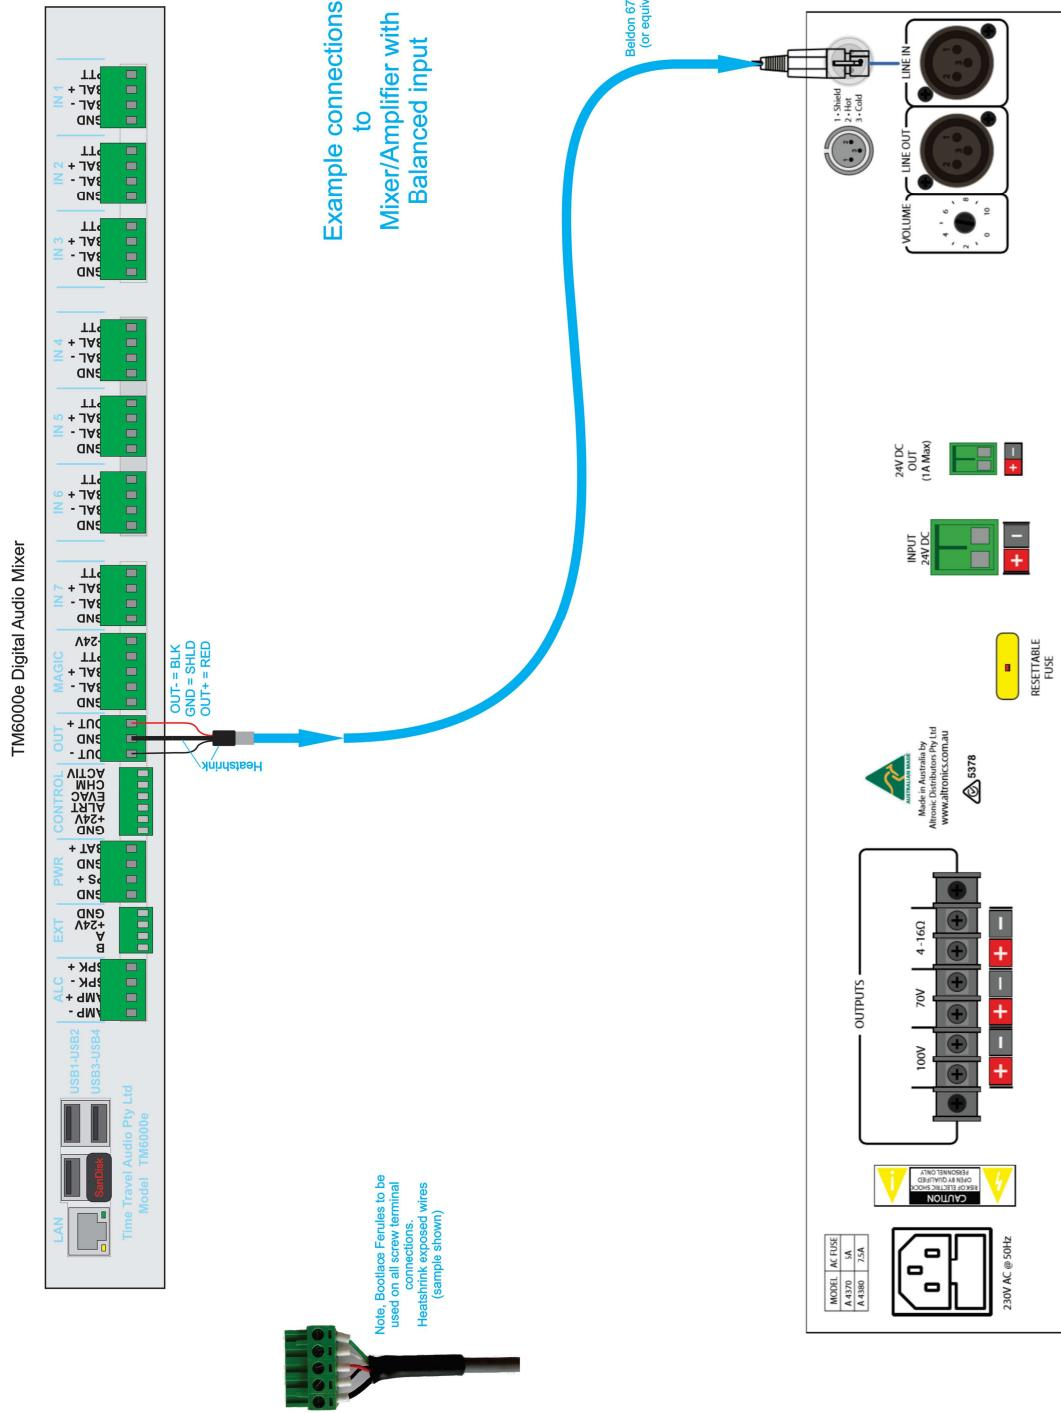

Figure 3 - TM6000e Example Connections – Power Amplifier with Balanced input
| Figure 3 - TM6000e Example Connections – Power Amplifier with Balanced input | 7 |
- a) Connect as per figures 3 and 4 on page 7 and 8